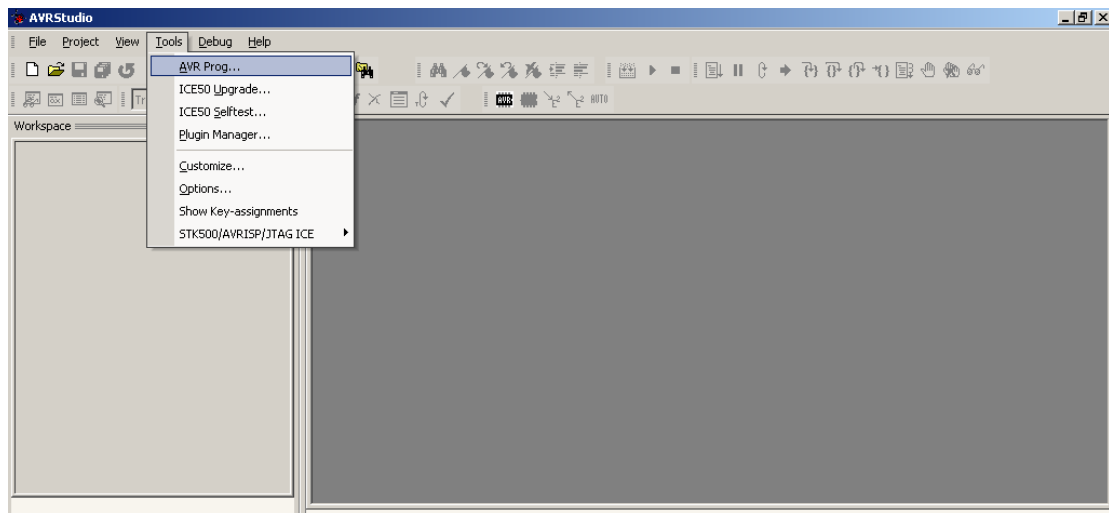

Figure 15: Starting AVR Prog in AVR Studio
The CC2400DB is shipped with a bootloader. This loader communicates with AVR Studio. After reset the bootloader must have a way to determine to start program mode or to run the application software residing in the application code section of the flash. To start the bootloader the Joystick center push on CC2400DB is used to enter program mode. This button is held low after reset while starting the AVR Prog from the Tools menu in AVR Studio until the bootloader program window is loaded. See figure 15 and 16.
4. Select Tools from the menu (See figure 15)